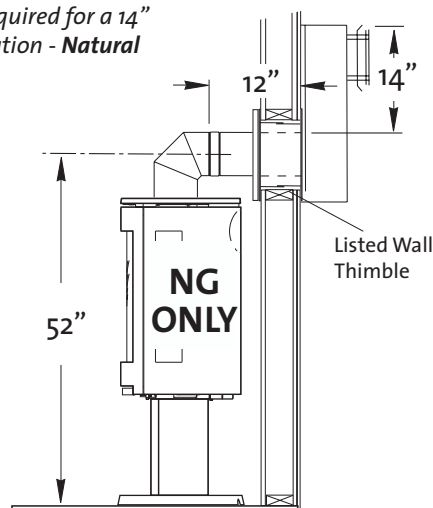

Figure 11. Install a listed wall thimble according to manufacturer's instructions to maintain required clearance to combustible materials.
- **Wall Cut-out:** A minimum 10" X 10" square hole is adequate for proper pipe clearance through a wall, provided the vent is positioned to maintain 2" minimum clearance at the top. A 1" minimum clearance must be maintained to combustible material around the other sides. See fig. 11.